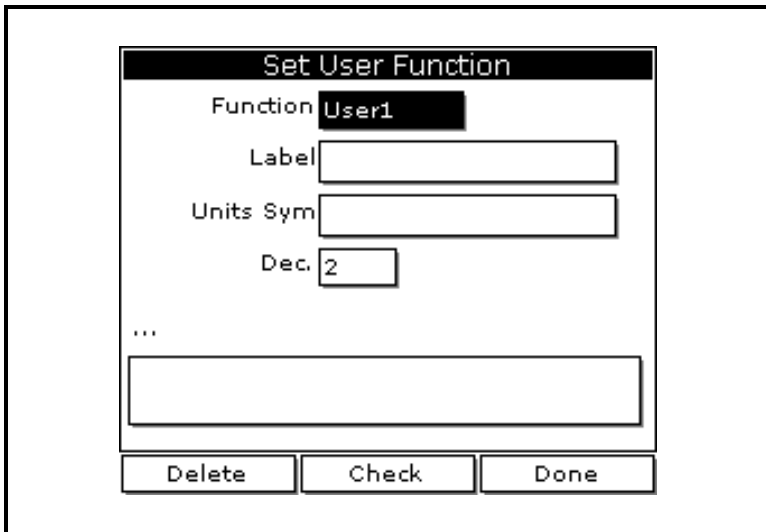

Figure 4-6: The User Functions Window
3. Use the arrow key to scroll to **User Functions** and press [ENTER]. A screen similar to Figure 4-6 below appears.